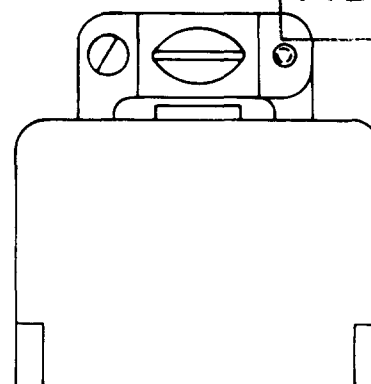

Fig. 1—KS-14528, L2 Connector
2.01 KS-14528, L1 and L2: The KS-14528, L1 and L2, connectors are primarily used on repeater oscillators in O Carrier Systems and with the coin control trunk test cords of the Step-by-Step Systems, respectively. These connectors consist of a molded, rectangular block of insulating material, equipped with 7 gold-plated, phosphor-bronze, floating terminals. The KS-14528, L2, connector (Fig. 1) is provided with a cover, a cable clamp, and a hood insulator. These connectors will mate with the KS-14527, L1 and L2, connectors.